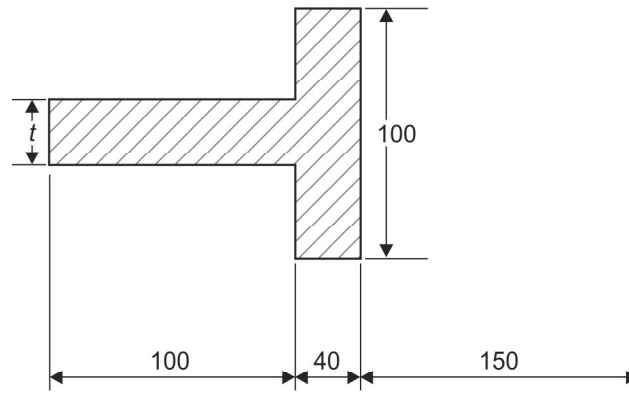

Fig. 1.39: Problem 34
- 34. Determine the value of steam thickness 't' in the T-cross-section of a curved beam shown in Fig. 1.39 such that the normal stresses due to bending at the extreme inner and outer fibers are numerically equal.**
- From Fig. 1.39, we have